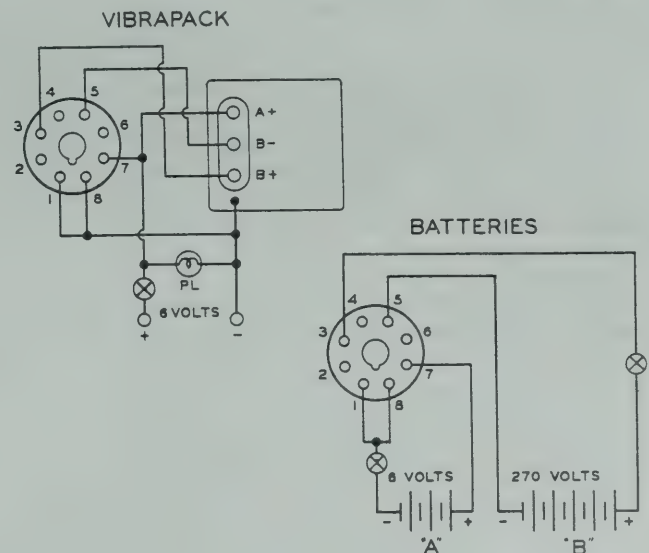

Figure 10. Octal plug wiring diagram
2. Wire an octal plug, as shown in Fig. 10, and plug it into socket SO-1. Use #19 (AWG) wire leads for the 270 volt "B" supply connections to pins #3 and #5, and #12 (AWG) wire leads for the 6 volt battery connections to pins #1, #7, and #8. **CAUTION:** Check the wiring carefully before connecting to the battery supply. The chart below lists the current voltage data.